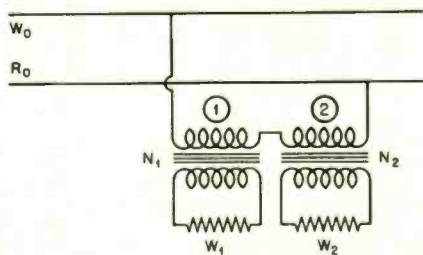

FIG. 1
Solution: First let us take a simple example in which we wish to furnish 8 watts of power to a 15-ohm load, and 4 watts to a 500-ohm load from a single amplifier, as generally shown in Fig. 1. It is well known that if two resistances are connected in series across a source of power, that the power absorbed by each will be directly proportional to its resistance. Thus, if one resistance is twice as large as the other it will absorb twice as much power. Therefore it follows that the primary which is to absorb 8 watts must present twice the impedance to the line as the one which is to absorb 4 watts. To simplify the problem, transformer losses are assumed to be zero. The losses in well-designed transformers are low so that the error introduced by this assumption should be less than 10 percent.
pedance R_0 is 500 ohms. Obviously the series impedance of the two primaries must be 500 ohms. Assume from Fig. 1 that transformer (1) is to absorb 8 watts and transformer (2) is to absorb 4 watts. Then: